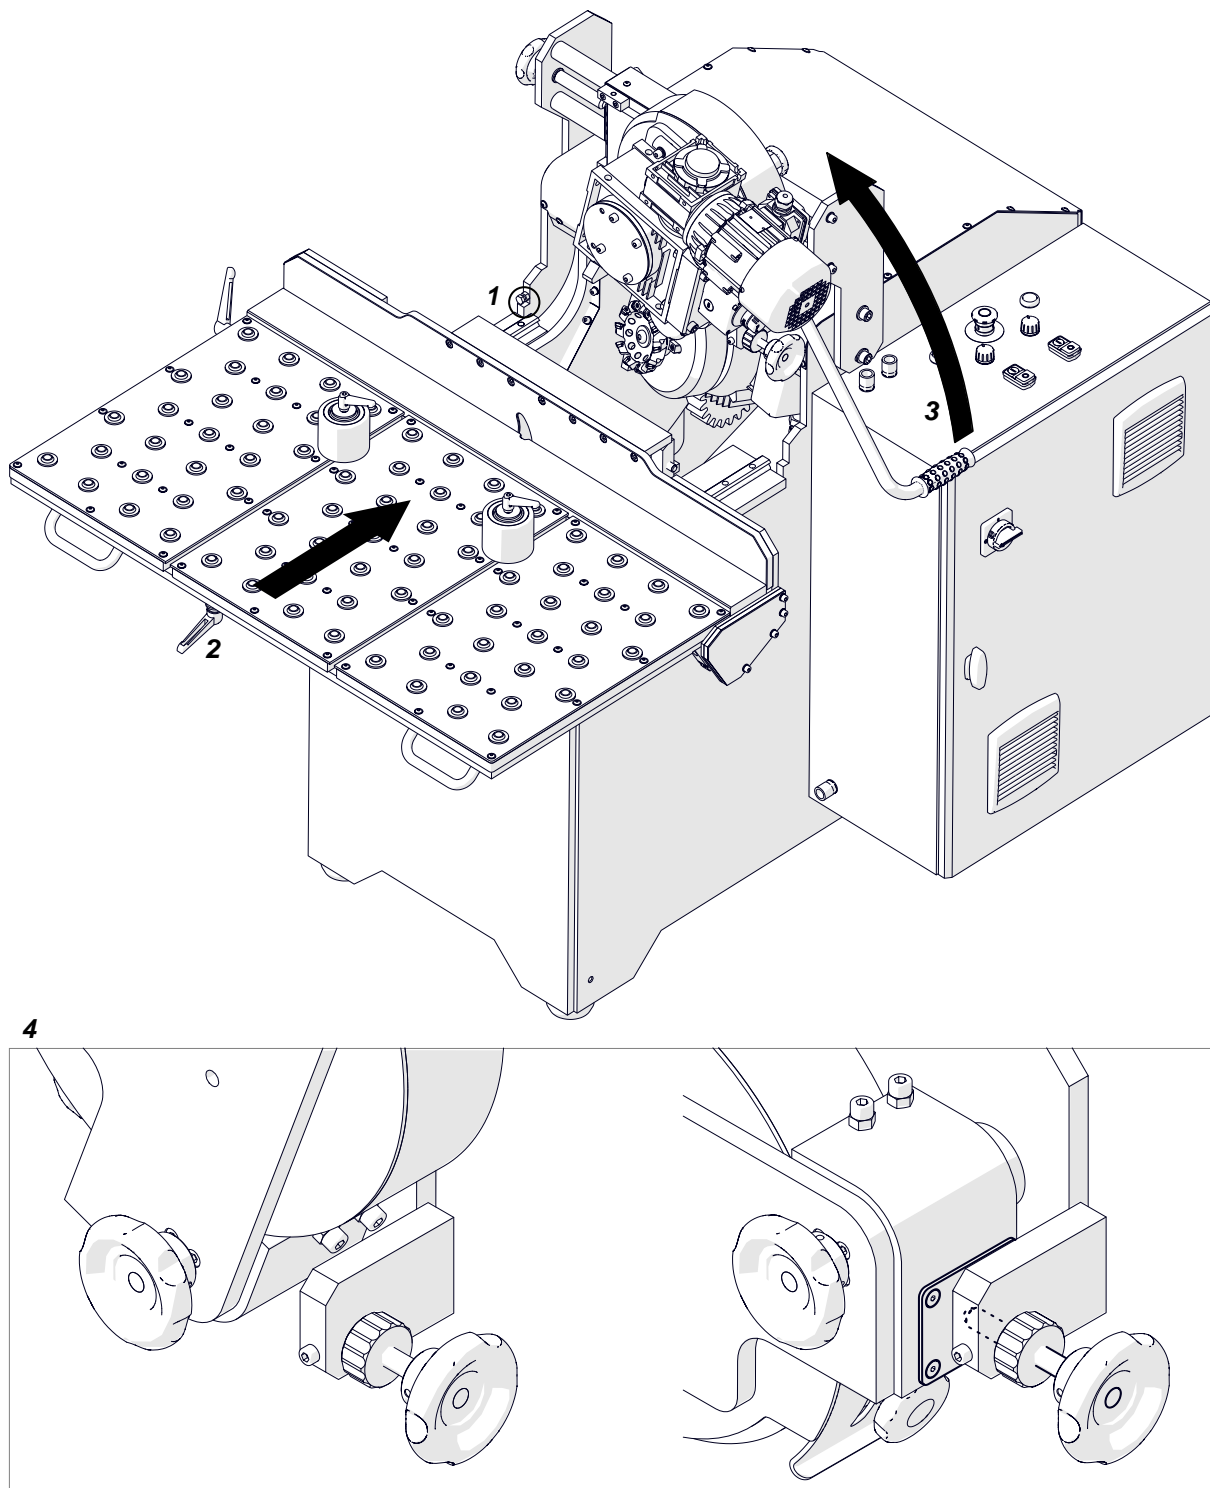

Fig. 5. Moving the table and lowering the feed unit
Move the table forward so that it makes contact with the bolt (1, Fig. 5), and then use the lever (2) to lock the table in this position. Next, use the handle (3) to rotate the feed unit so that the screw makes contact with the bumper (4).